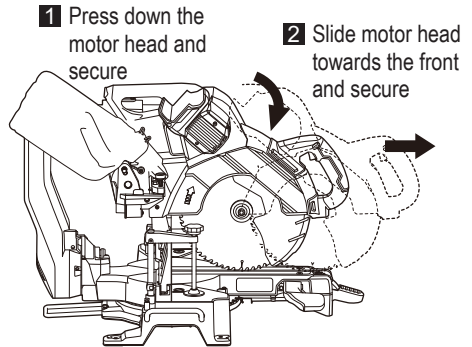

Fig. 57
- (2) Press down the saw head and secure in place with locking pin. (Fig. 57)
(3) Slide the saw head until it comes into contact with the front and secure the head with the slide securing knob. (Fig. 57)